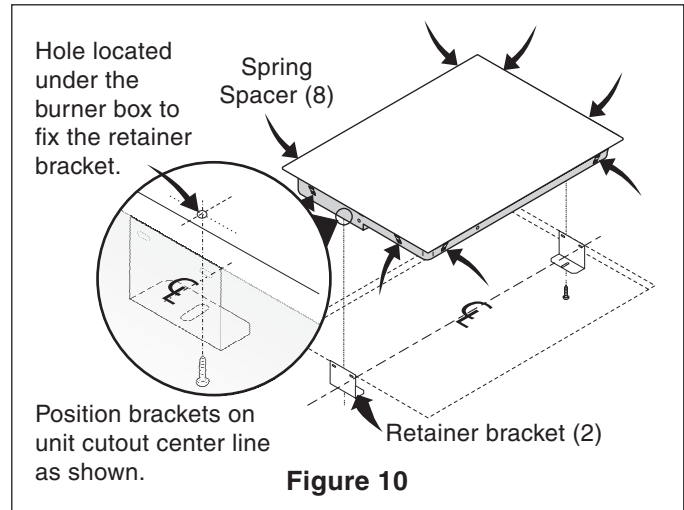

Figure 10
⚠ WARNING Do not remove the spring spacers on the edges of the cooktop. These spacers center the cooktop in the space provided. The cooktop must be centered to prevent excess heat buildup that may result in heat damage or fire (see Figure 10).
4. Fix the cooktop to the bracket using the screws supplied (see Figure 10).